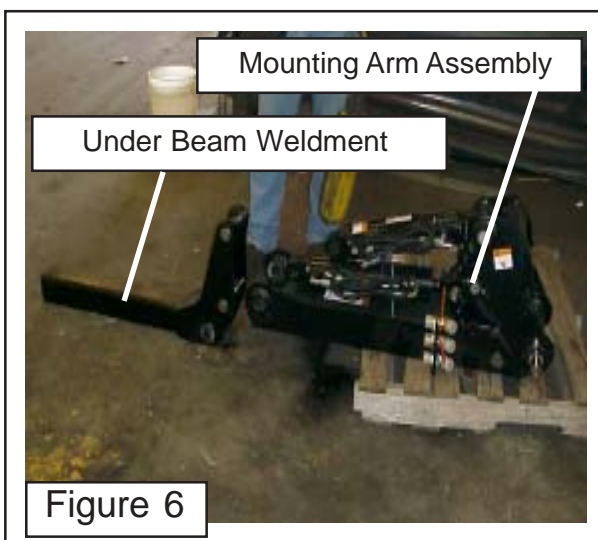
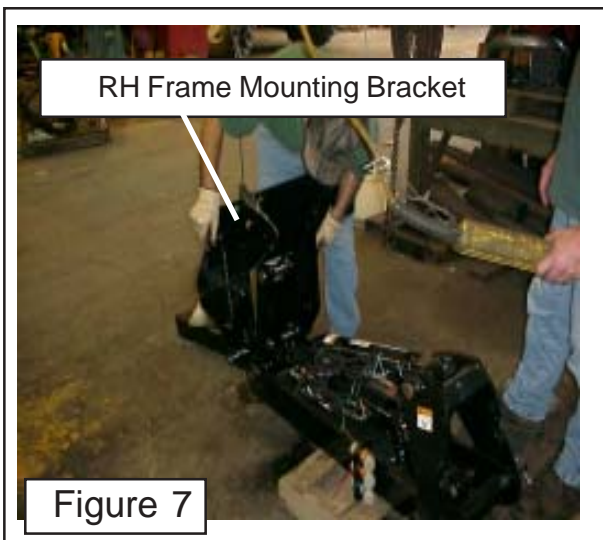

Figure 6
Figure 7
2. Align components. The same pin will connect all three components. It works well to have the Mounting Arm Assembly up off the floor a few inches (See Figure 6). Align the under beam up with the mounting arm, using a hoist lower the RH Frame Bracket down on to the mounting arm (See Figure 7).